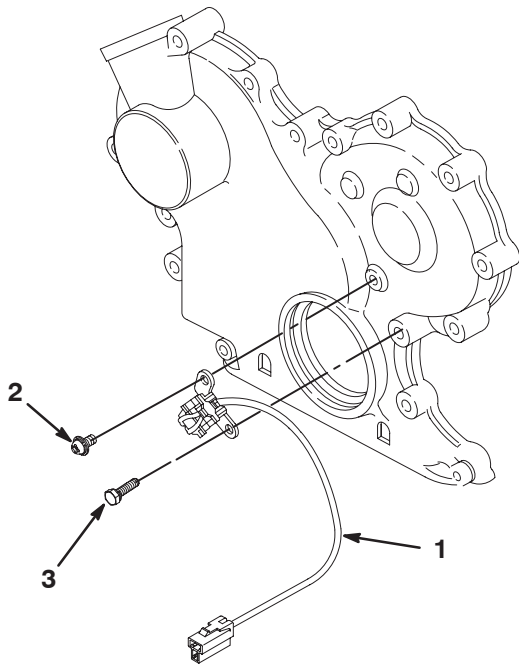

Figure 4
11. Install the sensor of the ignition trigger to the front of the engine with the Phillips screw and the hex screw supplied in the kit as shown in Figure 4 (Daihatsu engine only).